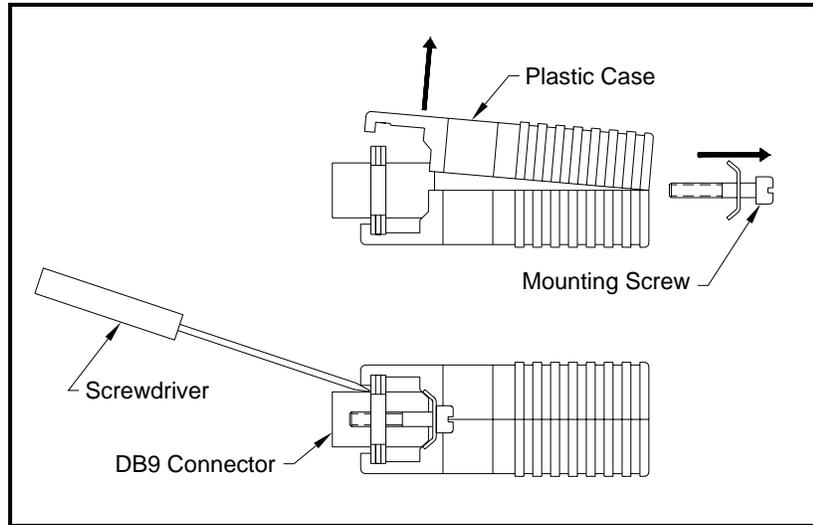

Figure 6-2: Opening the Converter Case
3. Remove the serial interface converter *mounting bracket* by removing the standoff located just below the RS232 terminal block and the grounding screw to its left (see Figure 6-2 on page 6-6).
5. Use a small screwdriver to pry open the *plastic case* of the serial interface converter, as shown in Figure 6-2 on page 6-6.